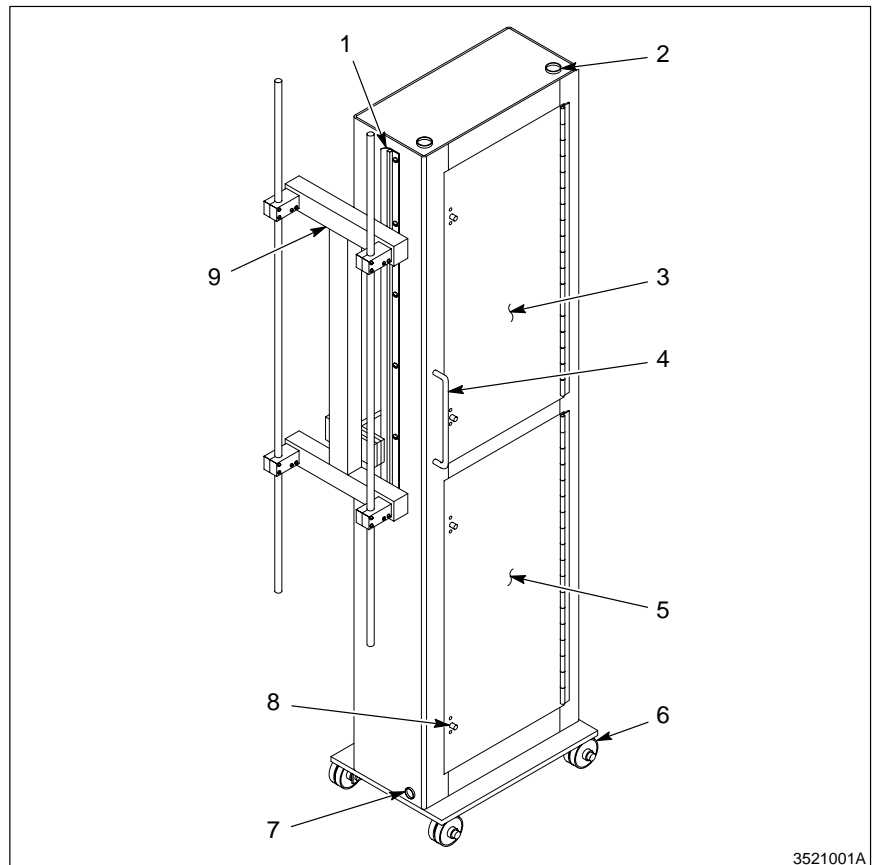

Fig. 2-1 P311 vertical oscillator
See Figure 2-1. The P311 vertical oscillator supports one to six automatic powder finishing guns. The upright machine moves powder finishing guns, mounted to the gun carriage up and down to ensure complete coverage of the object inside the coating booth.
1. See Figure 2-1. Open the upper and lower access doors (3, 5) on both sides of the oscillator. Make sure the oscillator mechanism is free of any foreign objects that would interfere with its operation.
4. See Figure 2-1. Close upper and lower access doors (3, 5) and turn on the power to the oscillator.